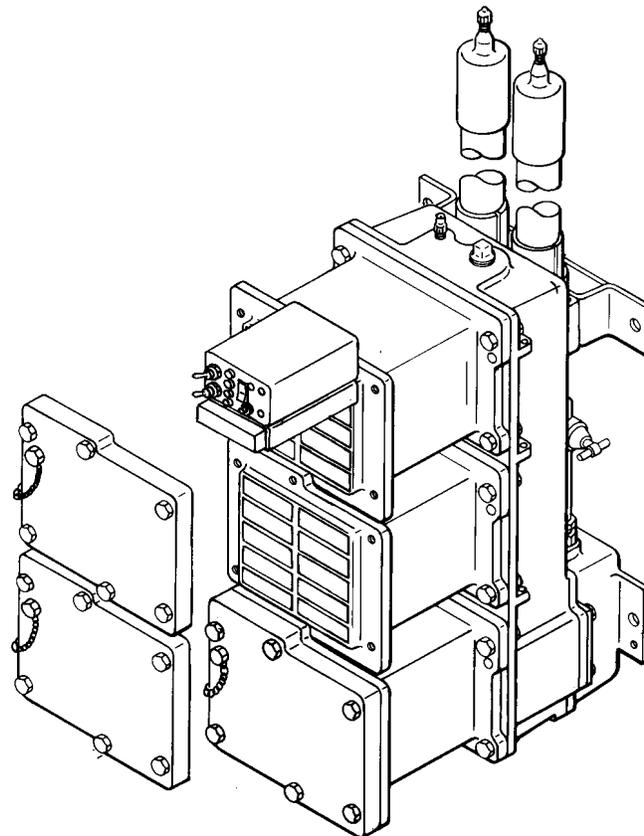

Fig. 2—T1C/T1 Bipolar Violation Detector—Plugged into 479-Type Apparatus Case
1.02 The detector is designed as a plug-in unit like the line repeater and can be plugged in place of the line repeater into the apparatus case (Fig. 2). The displaced repeater is then plugged into a slot in the detector to reconnect the repeater to the line and perform testing. The original power loop configuration is not disturbed during testing.